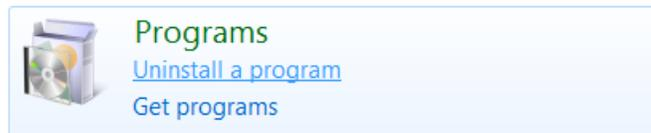

Figure 60: Windows® 7 Control Panel Uninstall a program utility
- 3) Go to **Programs > Uninstall a program** (Figure 60).